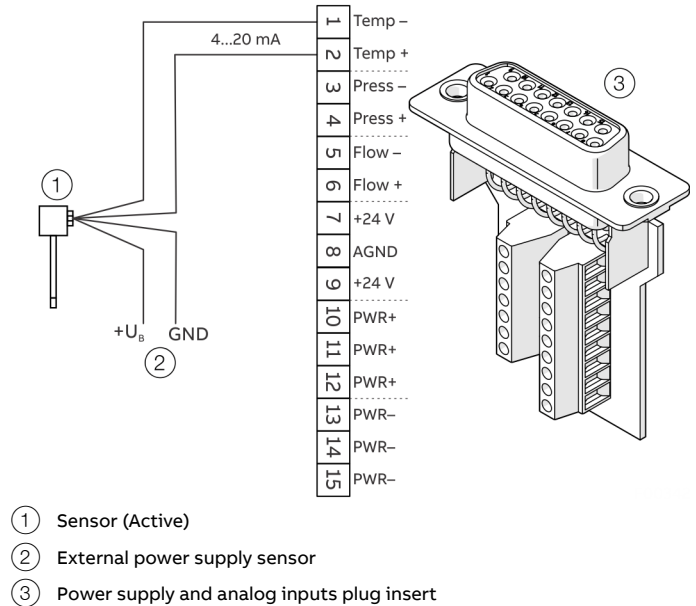
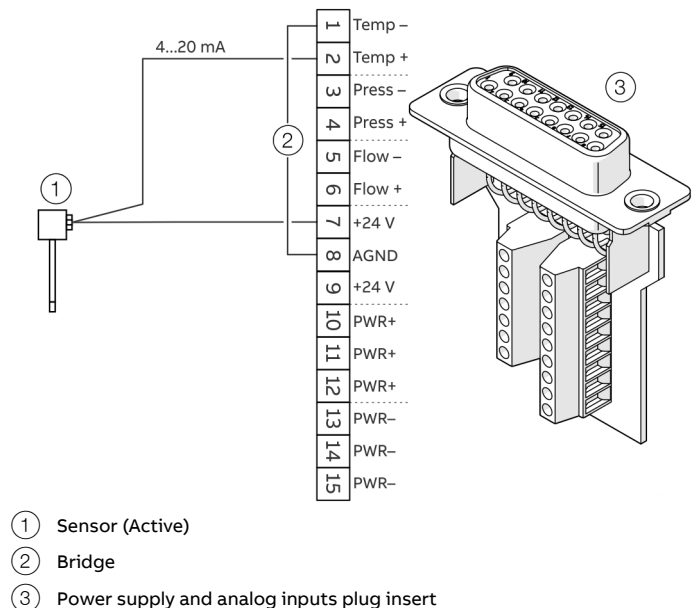

Figure 29: Connection example for analog input, active (example, temperature sensor)
Figure 30: Connection example for analog input, passive (example, temperature sensor)
5. Connect the cables to the screw terminals of the plug insert according to Figure 29 “Active sensor” or Figure 30 “Passive sensor”.